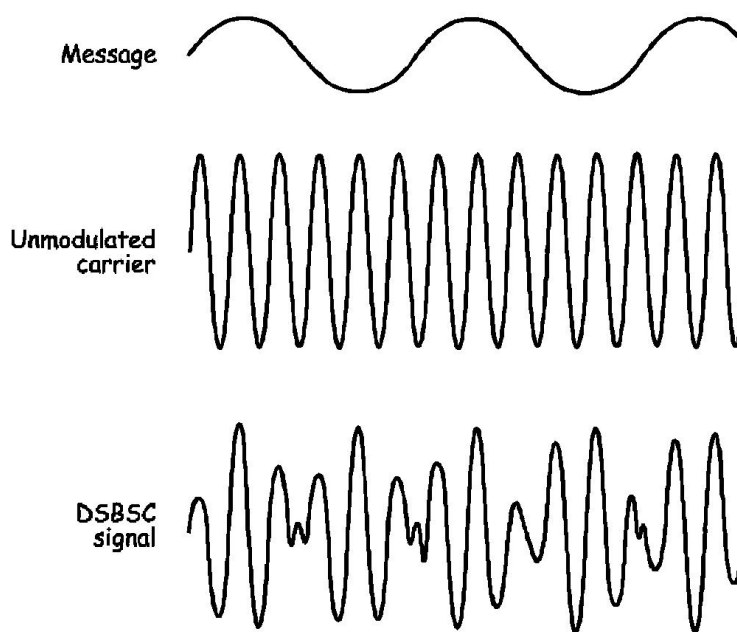

Figure 1:
Double Sideband Suppressed Carrier (DSBSC) modulation is a modulation system similar but different to Amplitude Modulation (AM). Like AM, DSBSC uses a microphone or some other transducer to convert analogue signal (speech and music) to an electrical signal called the message or baseband signal. The message signal is then used to electrically vary the amplitude of a pure sinewave called the carrier. Similar to AM, the carrier usually has a frequency that is much higher than the message's frequency. Figure 1 below shows a simple message signal and an unmodulated carrier. It also shows the result of modulating the carrier with the message using DSBSC.
When the message is a simple sinewave (like in Figure 1) the solution to the DSBSC equation (for example:  $\cos(\alpha) \cdot \cos(\beta) = \frac{1}{2} \cos(\alpha + \beta) + \frac{1}{2} \cos(\alpha - \beta)$ ) tells us that the DSBSC signal consists of two sinewaves: